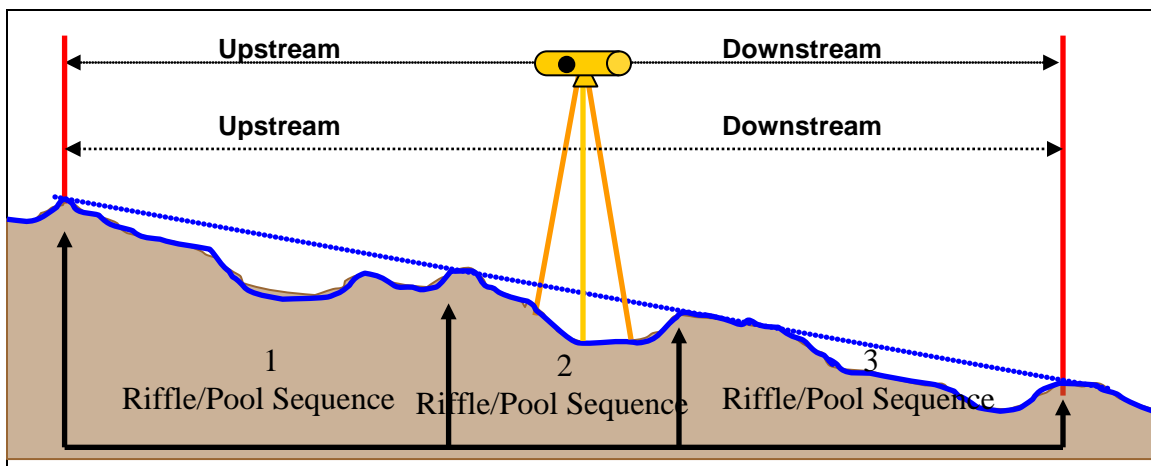

Figure 10 – Measuring slope
- **Note:** Ideally the distance between the two readings would include at least two riffle pool sequences (Figure 10). If this cannot be achieved from the location on the bank where the level is set to read the cross section (e.g. brush obscures line of sight, creek bends, etc.), wait until you've completed surveying the cross section then move the level to a location that allows a better view both up and downstream - this may be in the channel itself rather than on the banks (**Option 2**).
- Locate the furthest riffle upstream of the cross section that is within your line of sight. Measure, along the centerline of the bankfull channel*, the distance from the cross section to the beginning of that riffle (Figure 10). This is your **Upstream Distance** — record it on the data sheet.
- At the beginning of the riffle, have one person hold the stadia rod right on top of the water's surface (use a rock or the toe of your boot to set it at this level), while the other person takes a reading of the stadia rod with the level (Figure 10). This is your **Upstream Reading** — record it on the data sheet.
- Similarly, locate the furthest riffle downstream of the cross section that is within your line of sight, and repeat the same steps to measure your **Downstream Distance** and **Downstream Reading (Figure 10)** — record those on the data sheet.